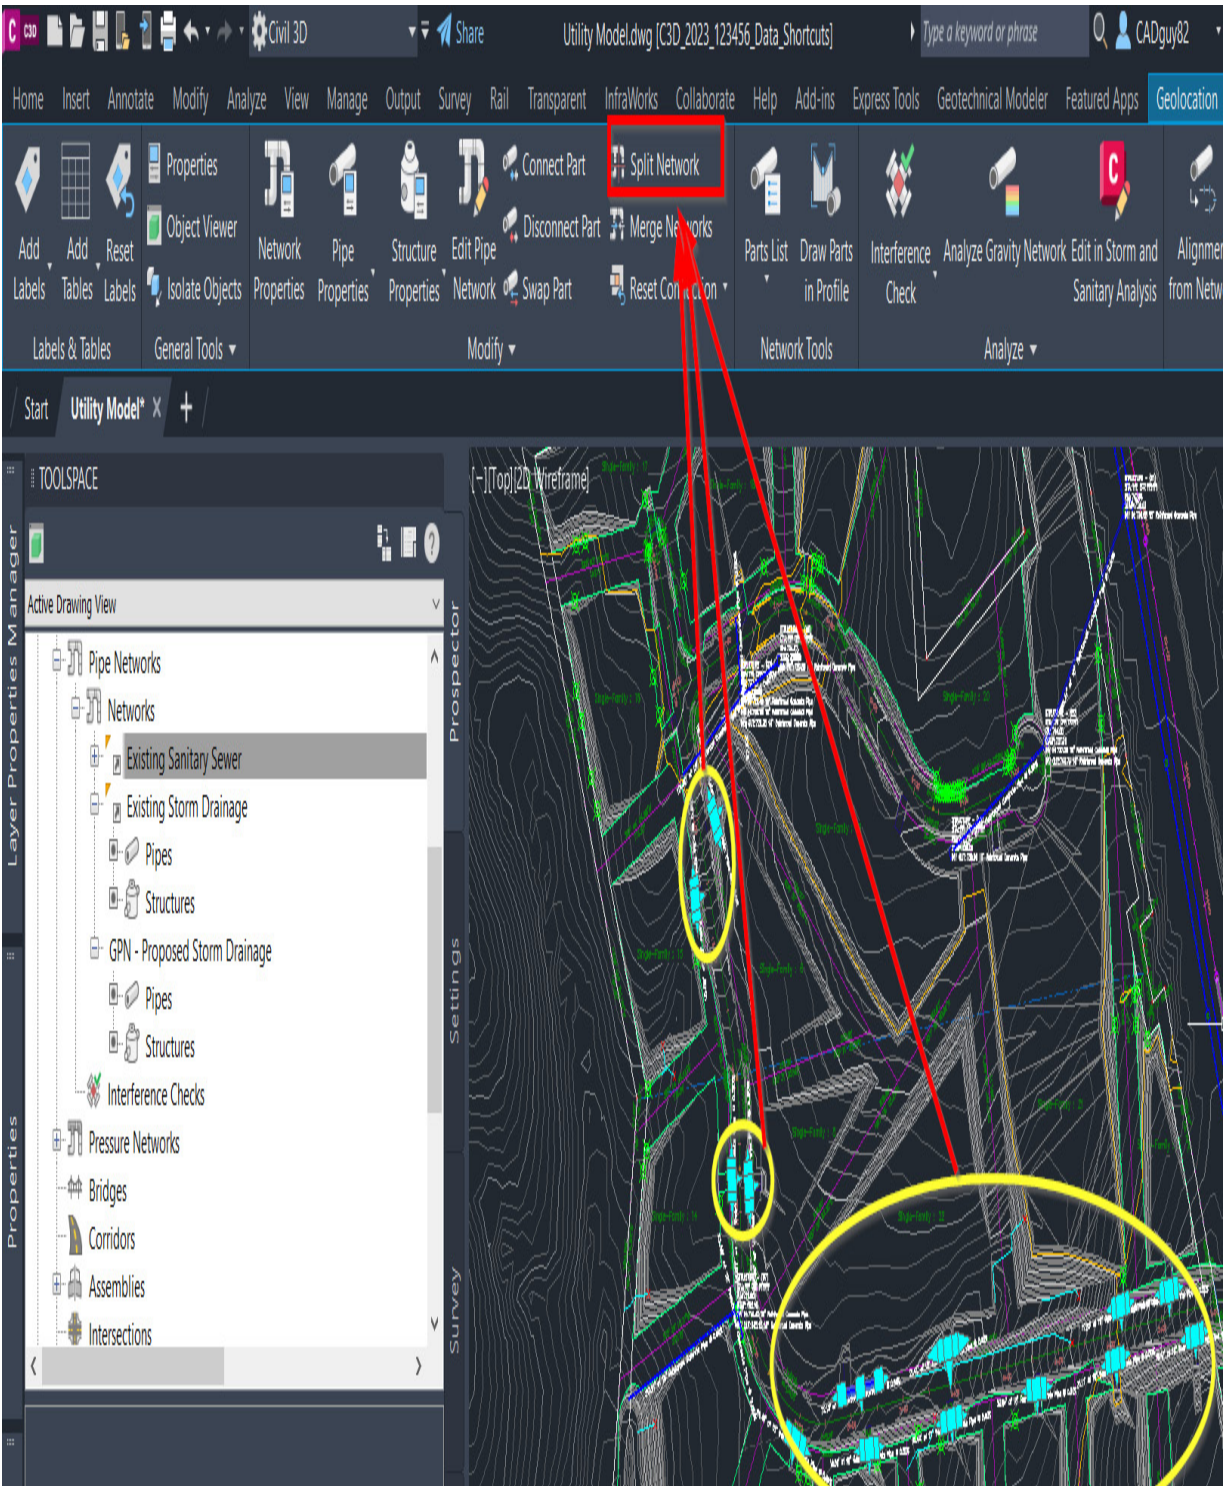

Figure 12.19 – Split Network tool
**Pipe Network Contextual** ribbon and select the **Split Network** option within the **Modify** panel, as shown in *Figure 12.19*: